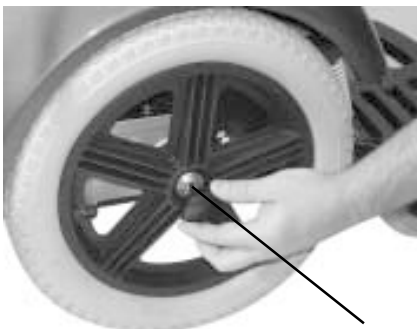

Figure 27. Drive Wheel
2. Remove the cap in the center of the wheel that covers the drive wheel nut. See figure 27.